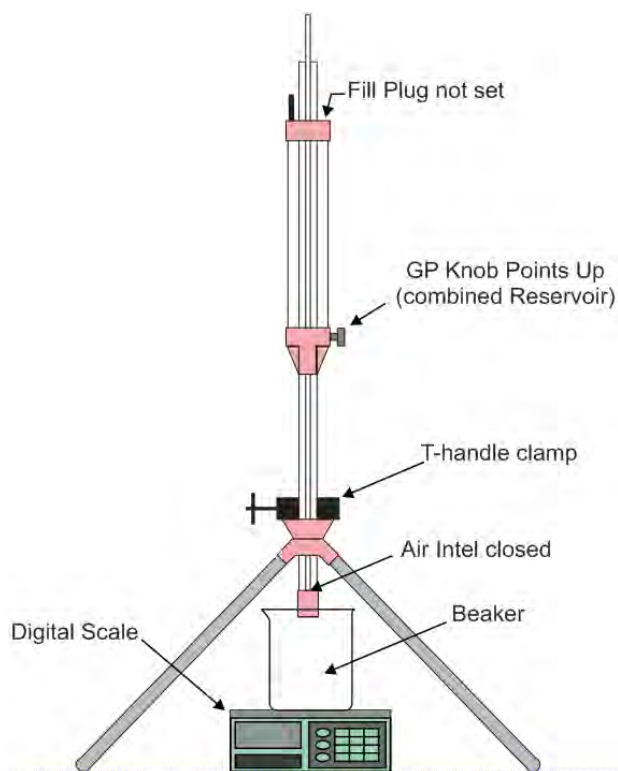

Fig. 38
**Set up the GP** according to Fig. 38. You will need a digital scale (0.1 g resolution) and a T-handle clamp or a similar clamping tool. Place a Beaker on the Scale on the lab floor and set up the GP tripod over the beaker and scale. Assemble the GP and set it in the Tripod. Secure the GP to the Tripod using a T-handle Clamp to provide enough space for both the Beaker and Scale. Note that the GP assembly should not be in contact with (touching) the Beaker.